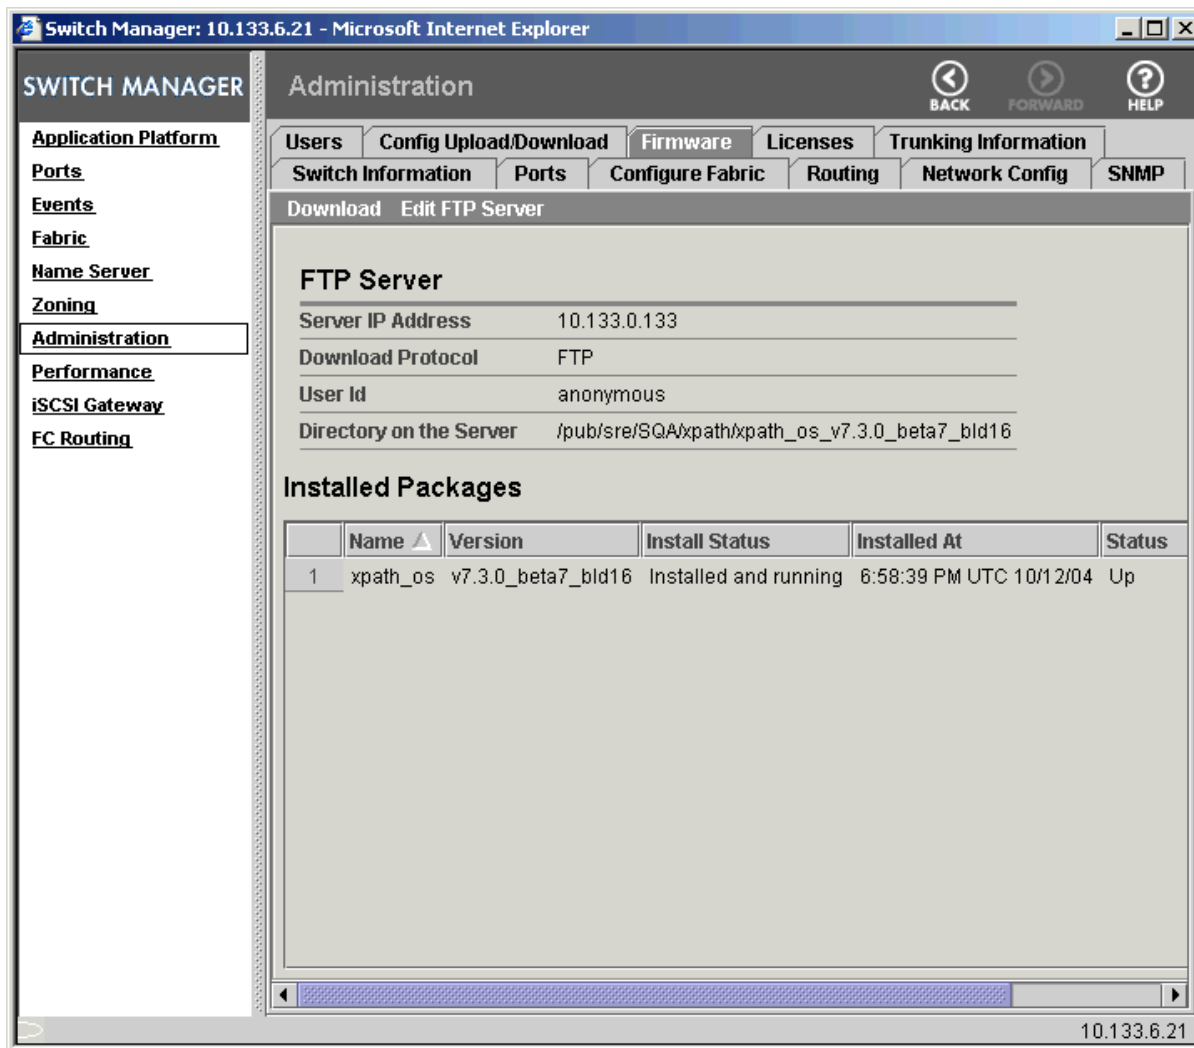

Figure 15 Administration page with Firmware tab selected
The Firmware tab of the Administration page contains the procedures for downloading the firmware packages. Figure 15 shows the Administration page with the Firmware tab selected.
3. Click the **Firmware** tab (see Figure 15).
4. Click the **Firmware** tab (see Figure 15 on page 40).